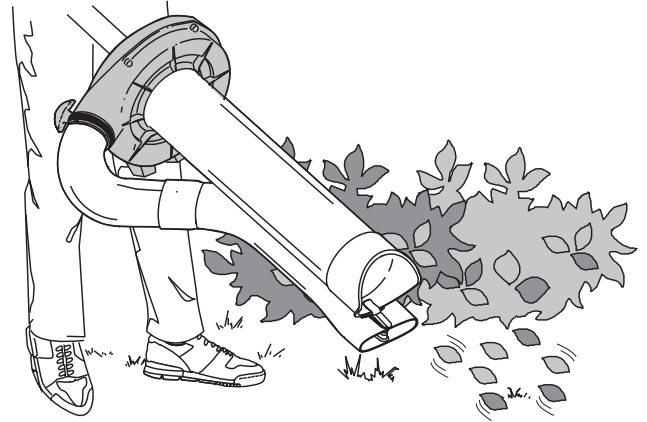

Fig. 10
1. You can blow debris from around buildings, trees, shrubs, and flower beds, or into a pile to be vacuumed (Fig. 10).